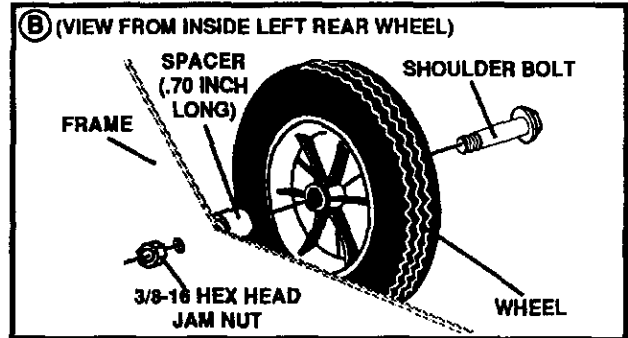

FIG. 2B
- Attach the left rear wheel to the edger/trimmer (See Fig. 2B) with a 3/8-16 x 1.39 inch shoulder bolt, spacer (.70 inch long) and 3/8-16 hex head jam nut (found in parts bag).